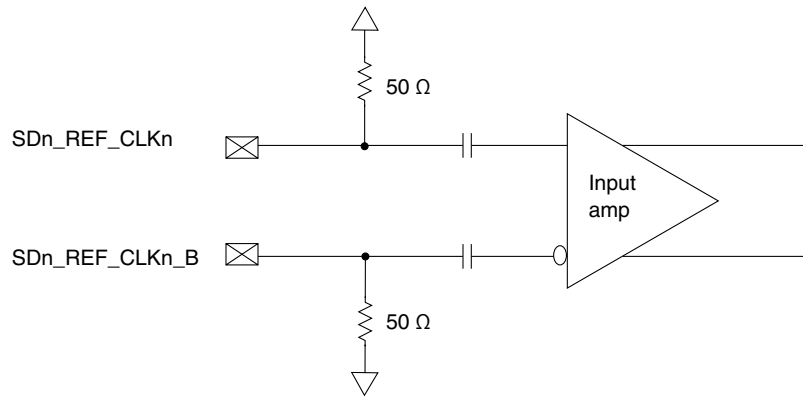

Figure 33. Receiver of SerDes reference clocks
- The SDn_REF_CLKn and $SDn_REF_CLKn_B$ are internally AC-coupled differential inputs as shown in Figure 33. Each differential clock input (SDn_REF_CLKn or $SDn_REF_CLKn_B$) has on-chip 50 Ω termination to $SGNDn$ followed by on-chip AC-coupling.